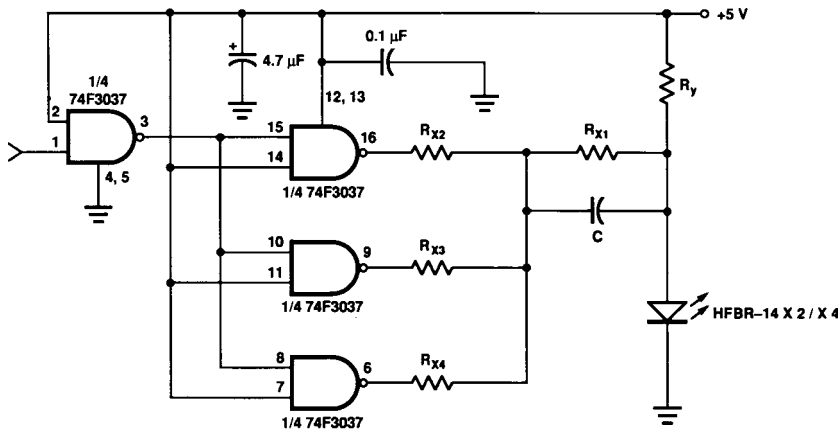

Figure 11. Recommended drive circuit.
- Pre-bias is recommended if signal rate > 10 MBd, see recommended drive circuit in Figure 11.
The circuit used to supply current to the LED transmitter can significantly influence the optical switching characteristics of the LED. The optical rise/fall times and propagation delays can be improved by using the appropriate circuit techniques. The LED drive circuit shown in Figure 11 uses frequency com-